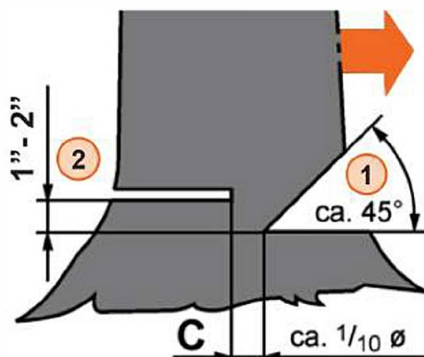

Figure 16
Notch the trunk by approx. one third of its diameter on the side of the direction of fall (1) (see Figure 16).